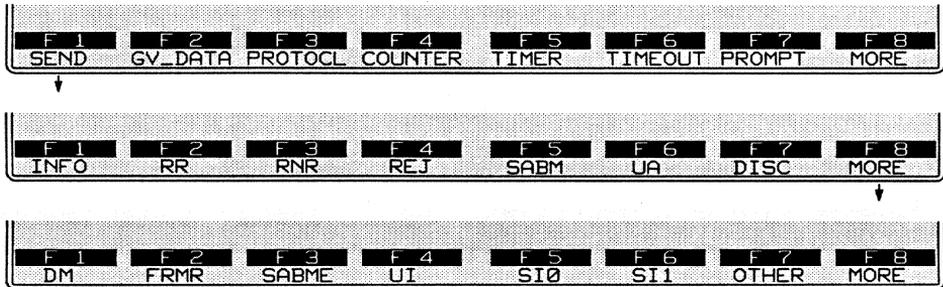

Figure 39-19 SEND actions always specify a frame type.
(Only at Layer 1 can data be generated as a simple character string without any protocol building blocks.) The complete set of frame types is given in Figure 39-19.
5. *Other frames.* Any frame type may be entered in a SEND action as a hexadecimal value instead of by name. Press the softkey for OTHER, on the bottom rack in Figure 39-19.